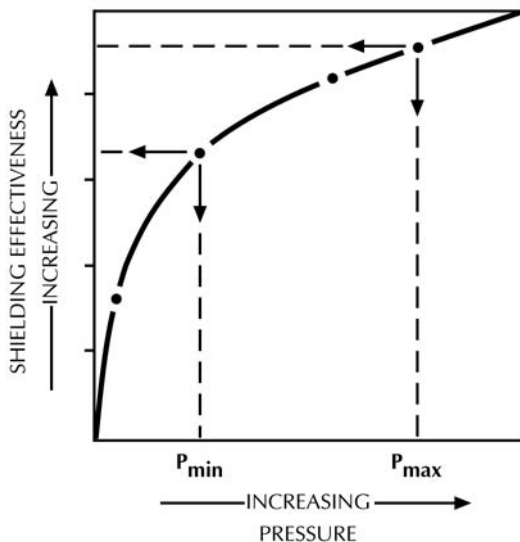

FIGURE 17
b. Closure Pressure Shielding effectiveness and closure pressure have a general relationship as shown in Figure 17. The minimum closure force (P_{min}) is the recommended applied force to establish good shielding effectiveness and to